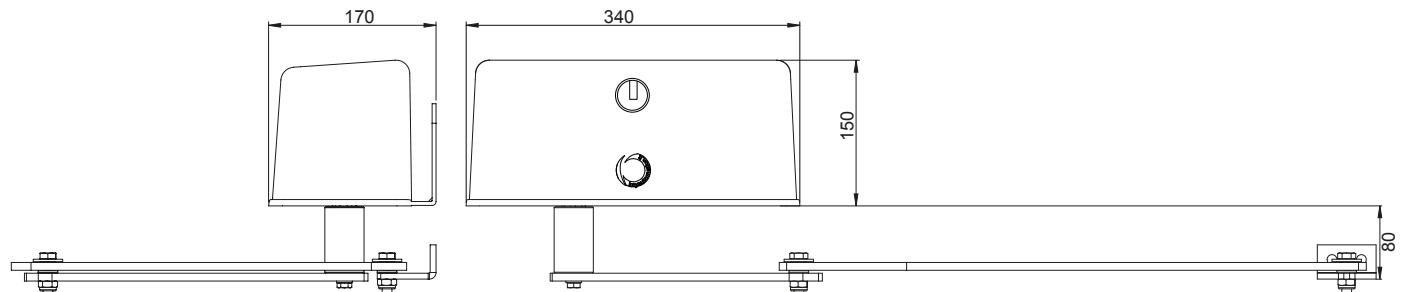

Fig. 2 IT - Limiti di impiego
- The weight and size of the gate or door must be within the maximum permissible operating limits specified in Fig. 2
Check the allowed opening angle according to the fixing points of the brackets in Fig.3 and in the diagram in Fig.2.